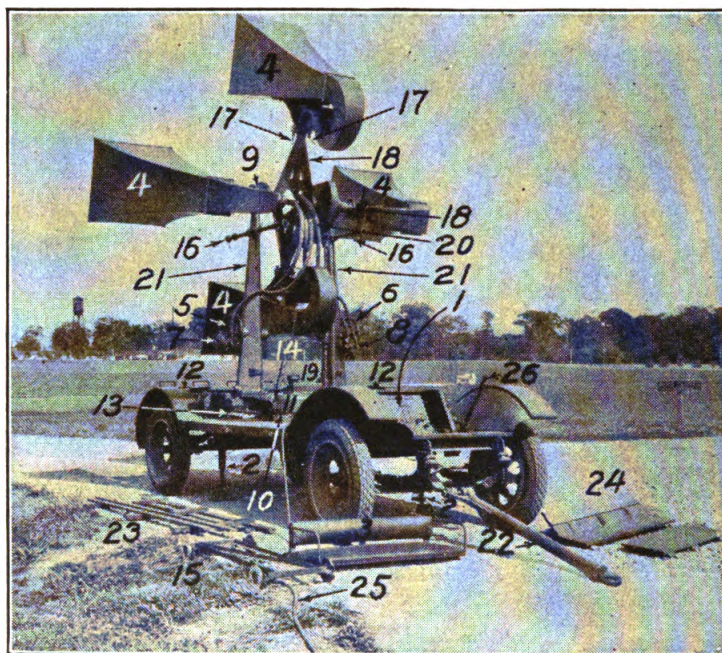

FIGURE 99.—Sound locator M1A1.
- (3) Listener's helmet.
- (4) A mounting for the horns so that the locator may be moved in azimuth and elevation by handwheels.
- (5) An acoustic corrector to correct for “sound lag.”
- (6) A data transmission system to send corrected data to the searchlight so it may be pointed correctly.
Q. Point out and give purpose of the parts of an M1 series sound locator. *A.* See figure 99.